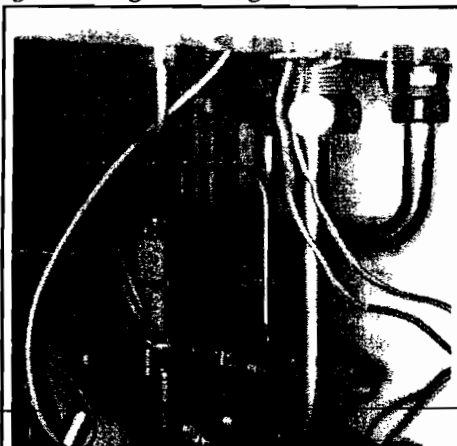

Fig. 67a
- (e) Refit main gas supply pipe to the gas manifold ensuring the rubber gasket engages into the gas manifold. Reconnect the other end to the gas valve using the three screws to fasten the triangular retaining plate. Ensure that "O" ring is correctly located in outlet of gas valve before fitting pipe. Fit and tighten the main gas supply pipe nut ensuring the collar is correctly located against the gasket. Fig.67a.